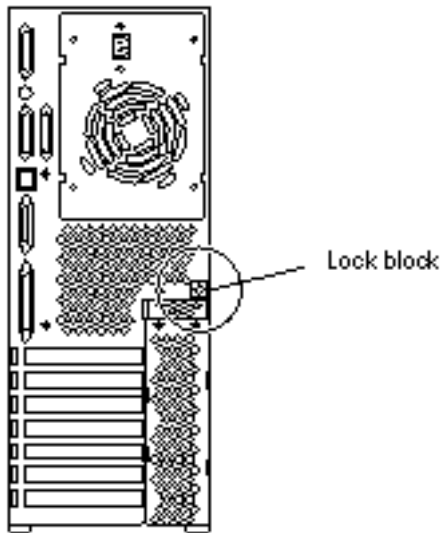

Figure 1-2 Lock Block Location
2. Disconnect the lock block (Figure 1-2).